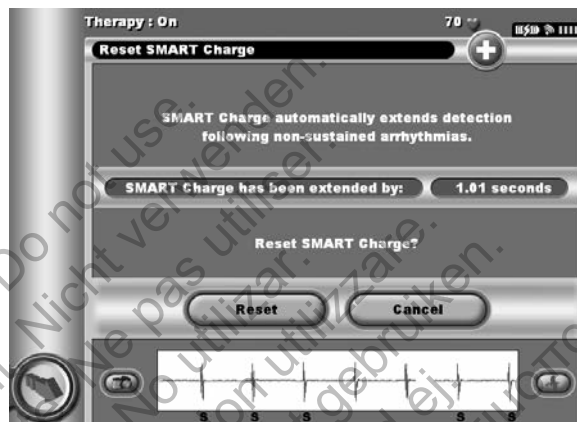

Figure 51: Reset Smart Charge screen
3. Select the Smart Charge button. The Reset Smart Charge screen appears (Figure 51).